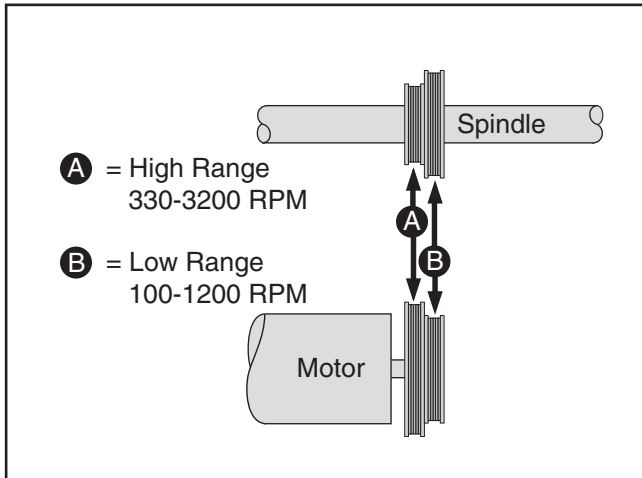

Figure 31. Speed range belt positions.
- Reach into the belt access cavity and roll the belt onto the desired set of pulleys (see **Figure 31**).